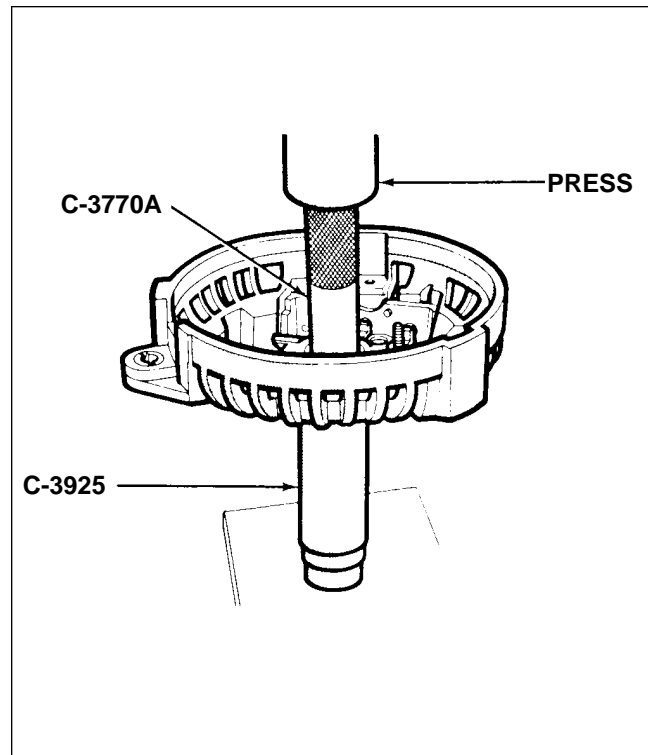

Figure 11-29. Removal of Rectifier
- f. Needle bearing in rectifier end shield is a press fit. If necessary to remove rectifier end shield needle bearing, protect end shield by supporting shield with tool C-3925 when pressing the bearing out with tool C-3770A. (Refer to figure 11-29.)